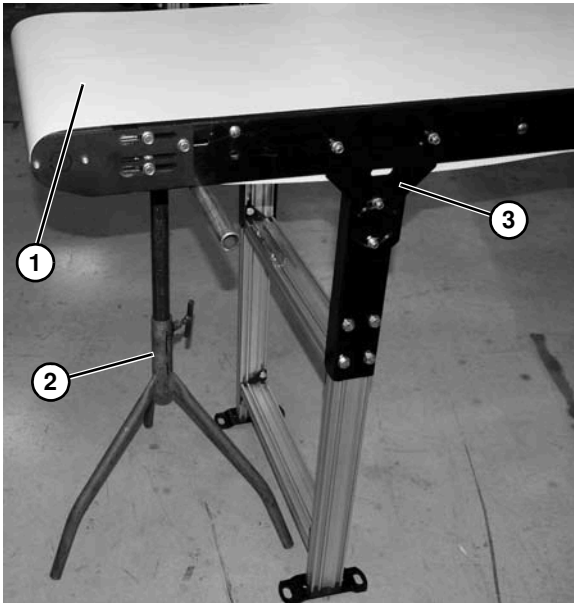

Figure 89
3. Install belt (**Figure 89, item 1**) on conveyor. Lift conveyor slightly to avoid pinching belt on temporary support stands (**Figure 89, item 2**).
5. Re-install conveyor mounting brackets (**Figure 89, item 3**) and secure with screws.